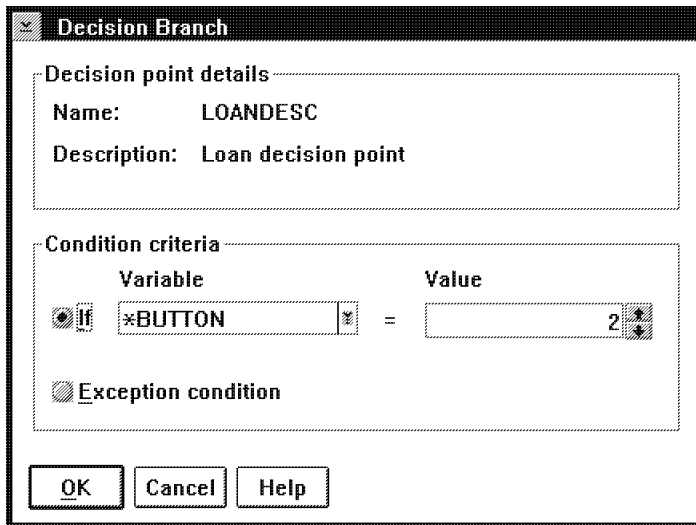

Figure 33. Decision Branch Window
1. Double-click mouse button 1 on the outbound connector from the decision point node in the work process diagram. You see the Decision Branch window shown in Figure 33.